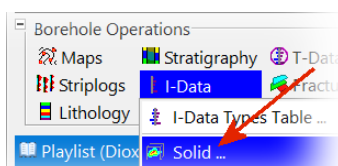

Figure 67
- Launch the **Borehole Operations / I-Data / Solid** program (Figure 67).